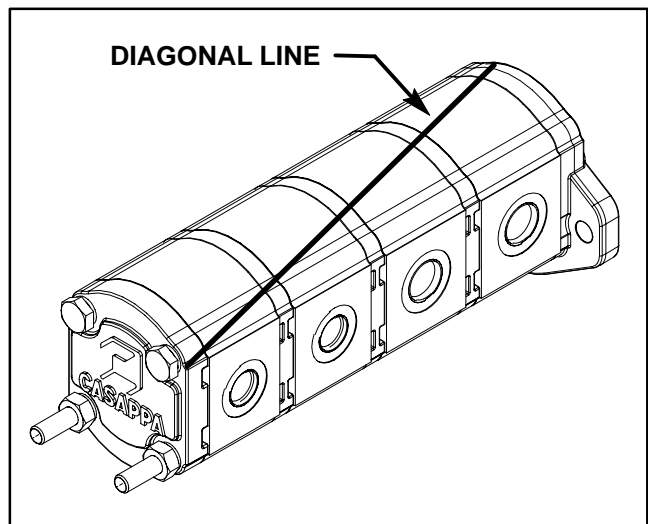

Figure 51
2. Use a marker to make a **diagonal** line across the gear pump for assembly purposes (Fig. 51).